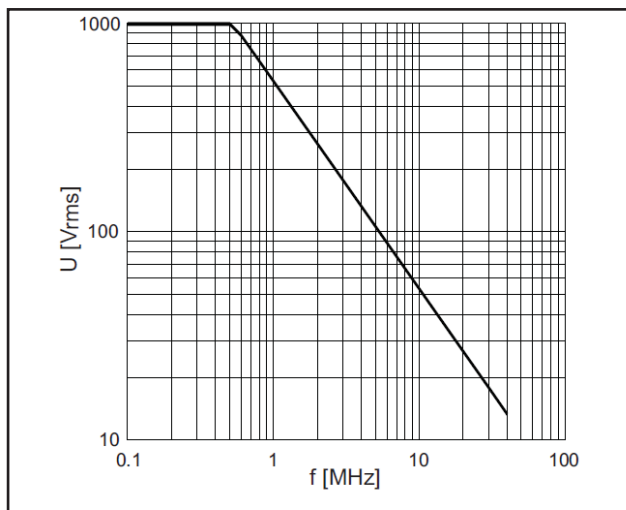

Figure 1. Max. Input Voltage vs. Frequency for BB120 and STL120-IV
- Direct on input or with leads 600 Vrms CAT IV for derating, see Figure 1.